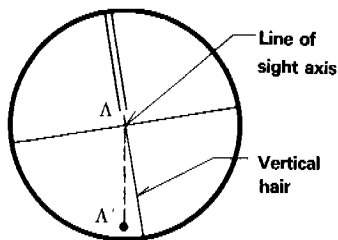
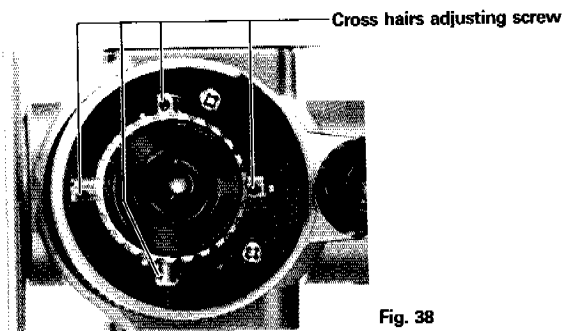

Fig. 36
Fig. 38
2. Loosen the four cross hair adjusting screws uniformly with the adjusting pin. Rotate the cross hair around the lens of sight axis, and align the vertical line of the cross hairs with point A'. (Fig. 36 and Fig. 38)
2. Turn the two cross hairs adjusting screws opposed horizontally by first loosening one, then tightening the other (see Fig. 38) with the adjusting pin. Move the cross hair so that point D is set on the line of sight.